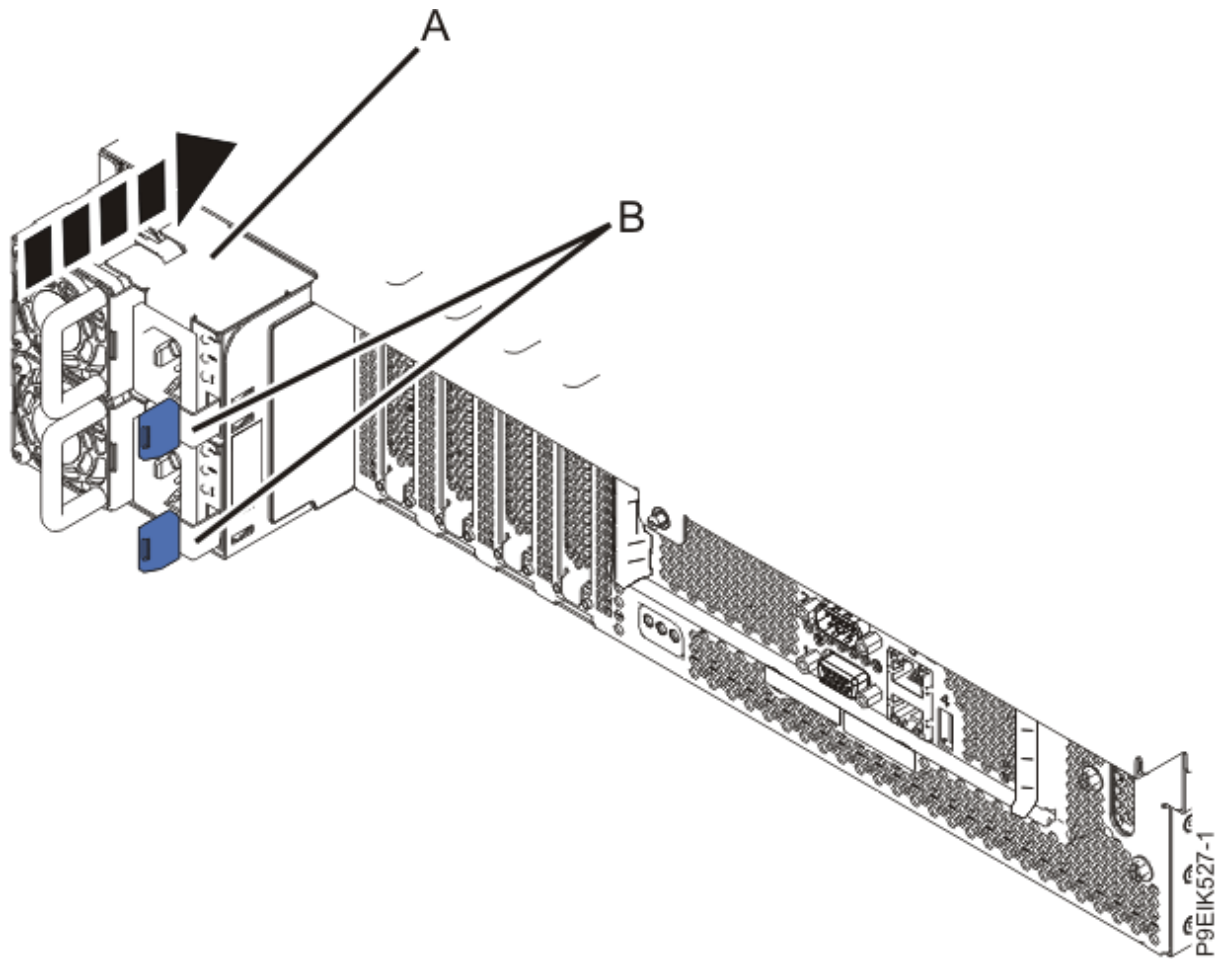

Figure 8. Replacing the power supplies in the system
4. Replace the power supplies as shown in Figure 8 on page 20.